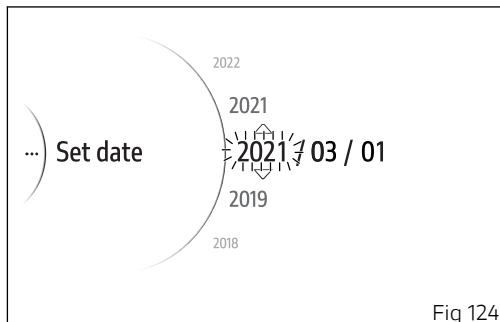

Fig 124
- Use buttons (1) and (2) from the Interactive Menu to select the "Setting menu" item and press ENTER (3).
- Select the "Date and time" item and press ENTER (3).
- Select the "Set date" item and press ENTER (3).
The first parameter of the date (Fig 124) starts flashing and is displayed with two arrows placed above and below it; the available values for the selected parameter are also displayed. Use buttons (1) and (2) to scroll and select the desired value. Press ENTER (3) to confirm and move on to the following parameter.